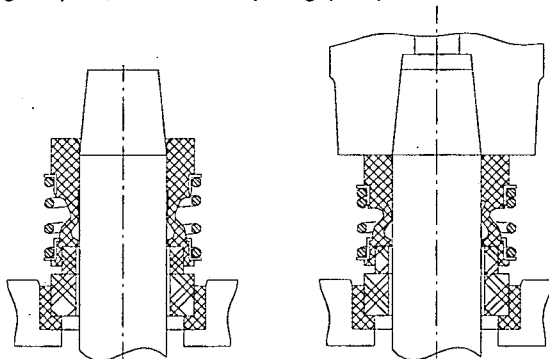
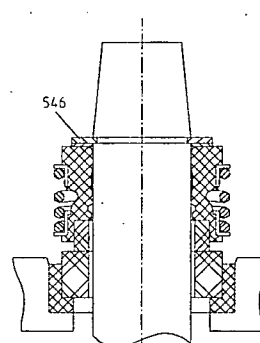

Fig. 26
Fig. 27
Wet the rotating part of the mechanical seal with soap water. Push the whole assembly by hand over the shaft as far as possible. On size 20 mm (Fig. 26) final assembly by installing of impeller. On other sizes (Fig. 27) secure with snap ring (546).